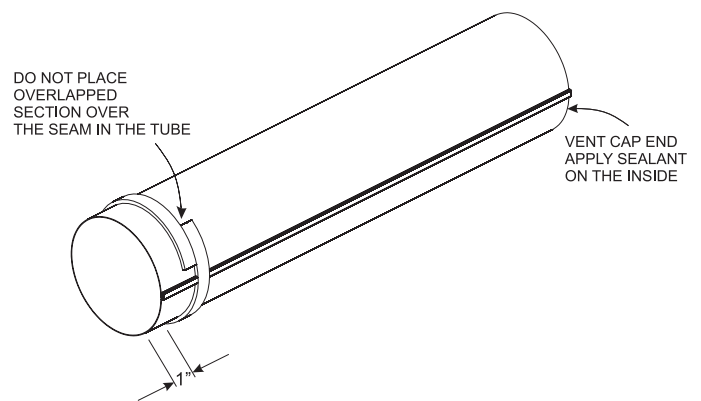

Figure 54
12. Seal the 4" (102 mm) diameter flue outlet tube. Follow instructions and diagram. **See Figure 54**.
If the air inlet and flue outlet tubes are to be connected directly to the unit (no rigid venting system is being used), then the gasket provided must be used to seal the 4" (102 mm) flue outlet tube. Peel the paper off the self-adhesive gasket and then wrap it around the end of the tube (if tube was cut, it is recommended to use cut end) as shown in **Figure 54**. Pull the gasket tight at all times while wrapping it around tube. The gasket ends should align, to form a complete seal. The overlapped section should NOT come in contact with the seam in the tube. Apply high temperature sealant to the opposite end of the tube (on the inside of the tube). The end with the gasket will attach to the back of the unit. Continue with Step 13.